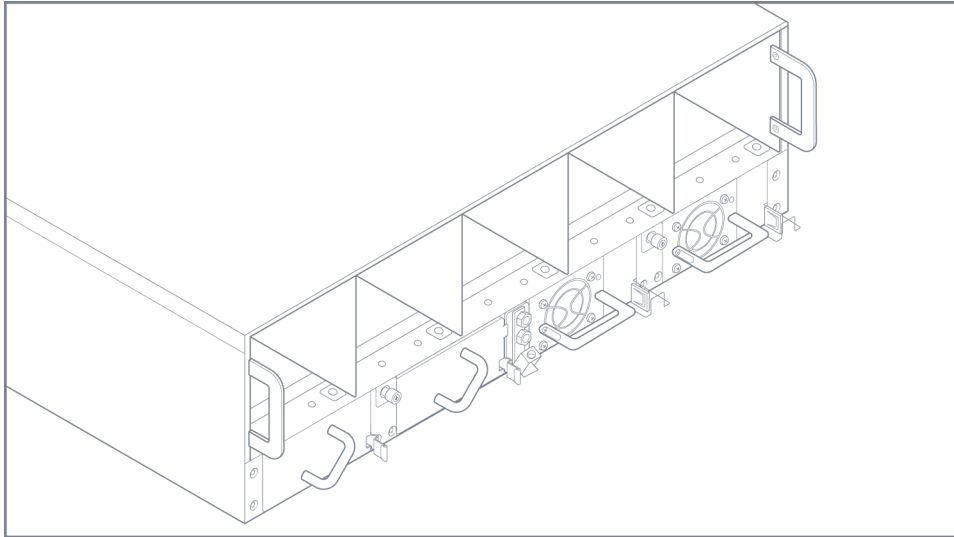

Figure 13 Fan Tray Inserted
3. Slide the fan tray in until it is flush with the chassis rear; it will not slide in any further as shown in Figure 13 Fan Tray Inserted.